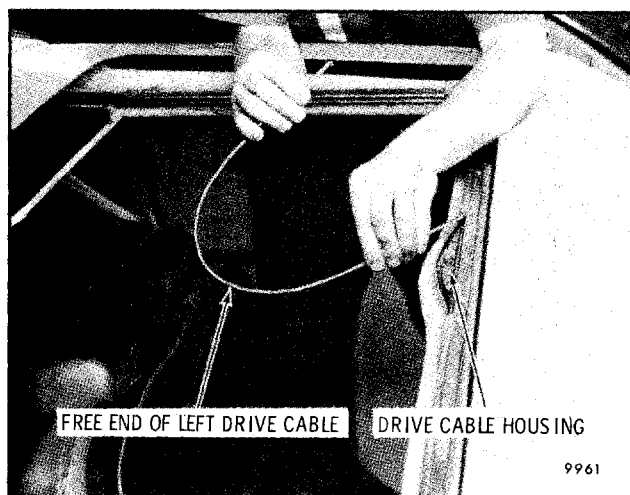

Fig. 8-117-Removing Free End of Drive Cable - E and K Styles
4. Disengage drive cable to be removed from drive cable housing and pull out free end of cable (Fig. 8-117).